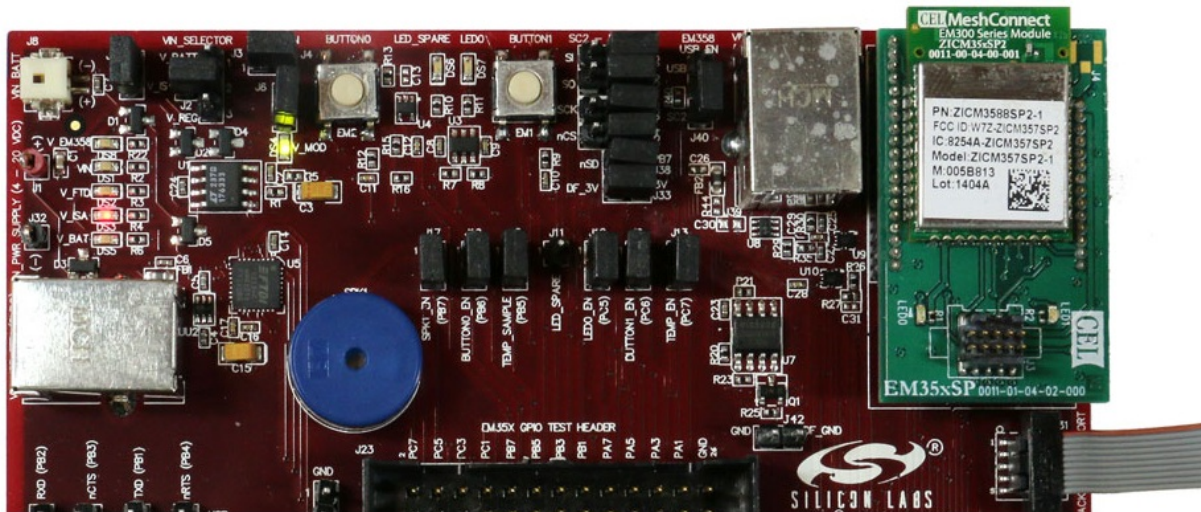

Figure 9. Breakout Board Power Supplied by Debug Adapter (ISA3)
- Breakout Board Power Supplied by Debug Adapter (ISA3) (Figure 9): The default configuration is to supply power via the Debug Adapter (ISA3) and Packet Trace Port cable. Ensure the power switch on the Debug Adapter (ISA3) is in the INT (Internal) position. The power supply of the Debug Adapter (ISA3) is also controlled via the admin interface. You may need to connect to the admin port of the Debug Adapter (ISA3) and issue the "power on" command. No external power supply should be connected to the Breakout Board when supplying power from the Debug Adapter (ISA3). The power supply jumper on the Breakout Board should be in the